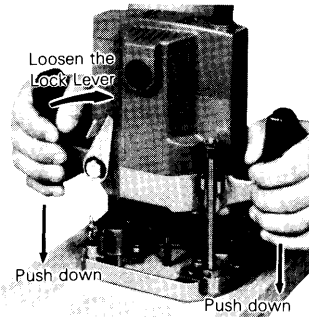

Fig. 6
(1) When adjusting the cutting depth, use the stopper pole and the scale.
① Upon loosening the knob, place the stopper pole against the stopper block or the cut depth setting screw.
② After loosening the lock lever, push down the handles until the bit tip slightly contacts the surface of the workpiece, and then clamp the lock lever. This state is termed "cut 0 (zero)." (Fig. 6)
③ Then read the stopper pole arrow position on the scale. Raise the stopper pole arrow position along the scale graduation until it attains the desired cutting depth, and then clamp the knob.